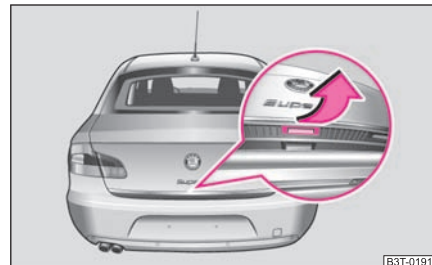
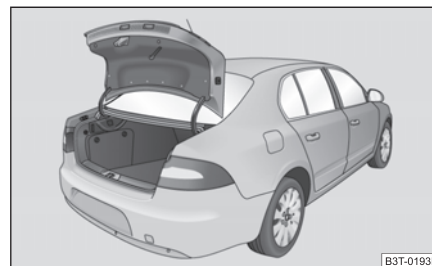

Fig. 29 Handle of boot lid
Fig. 30 Boot lid
After unlocking the vehicle using the remote control or the key ⇒ page 40 you can open the small boot lid ⇒ fig. 30.
- Press on the handle at the bottom side of the boot lid ⇒ fig. 29, the boot lid lifts up automatically ⇒ fig. 30.